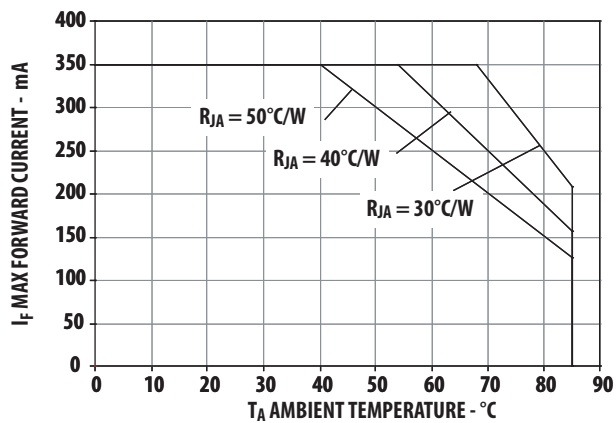

Figure 11. Maximum forward current vs. ambient temperature for InGaN
- DC forward current – derate linearly based on Figure 5 for AllInGaP & Figure 11 for InGaN.